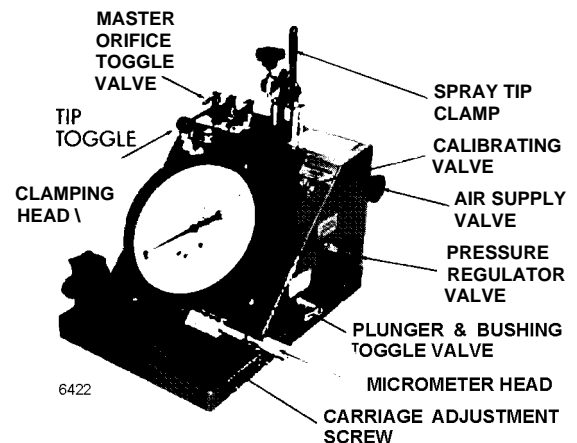

Fig. 12 - Plunger/Bushing and Tip Flow Gage
gage) and connect your air line. Familiarize yourself with the various components on the unit (Fig. 12).
1. Set all toggle valves in the *closed* position (Fig. 12).